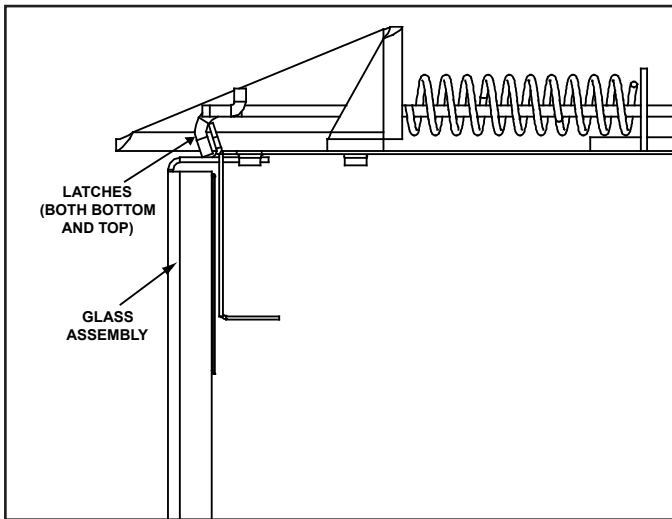

Figure 4.1 Fixed Glass Assembly
- Pull the four glass assembly latches out of the groove on the glass frame. Remove glass door from the appliance. See Figure 4.1.